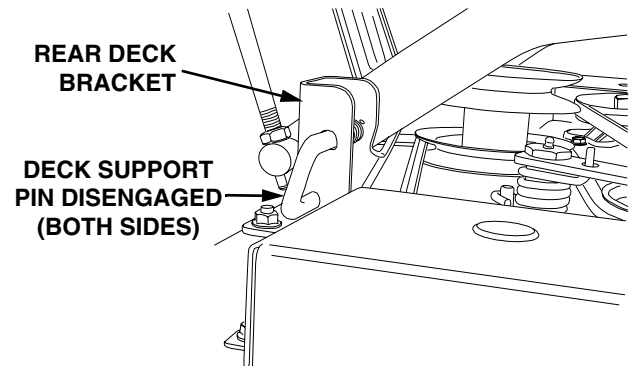

Figure 38
6. Pull the deck support pins outward, turn downward and release so both spring-loaded pins are held in the disengaged position against the outer surface of the deck brackets (See Figure 38).